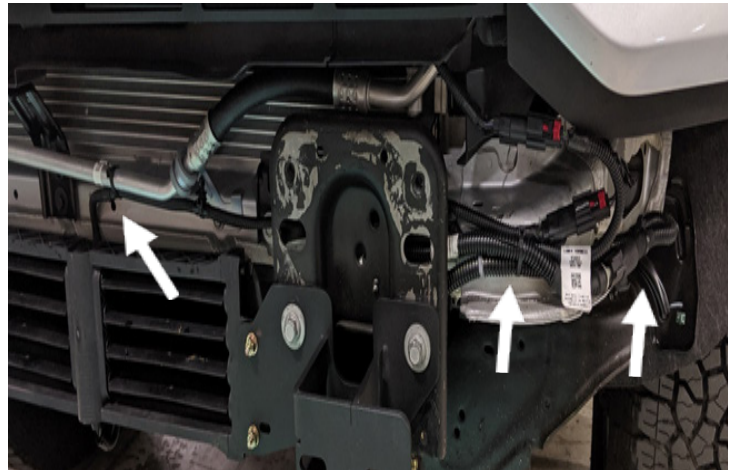

Figure 25
27. Route and reconnect the two (2) Oem wiring harness plugs from the factory louver system behind the frame rail end of the driver side fame rail end. If equipped, route the engine heater plug wiring behind the fame rail also. Zip tie and secure the wiring bundles as desired. Figure 25